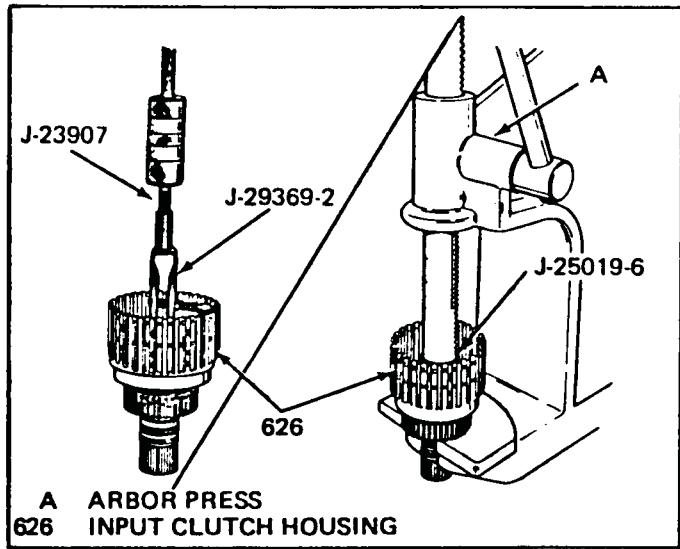

Figure 74
3. Press replacement locking sleeve into the input housing with a bench press as shown in Figure 74.